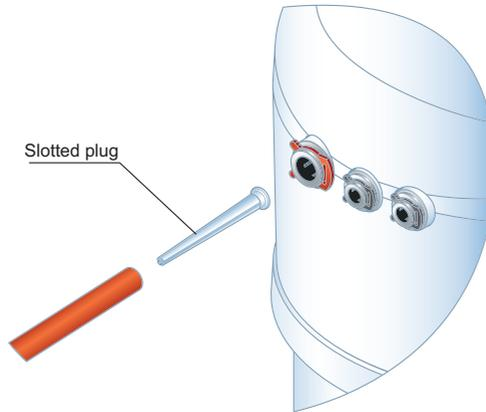

Figure 10. Slotted plug installation
1. Install the slotted plug into the JG tube 3/8" (9.5 mm) tube to a stop, as shown on figure 10.